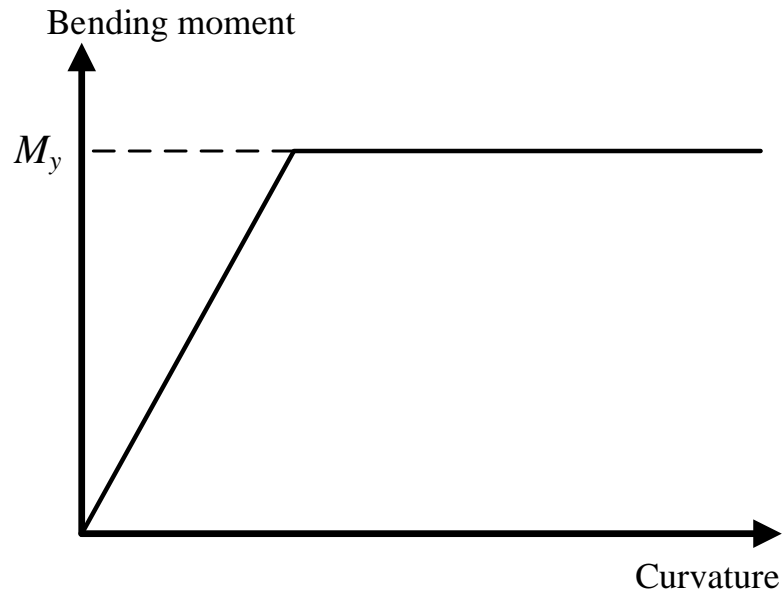

Fig. 1-2
- (5) The nonlinear behavior of the member is assumed as the perfect bilinear model, as shown in Fig. 1-2, and the yield moment is M_y . Calculate the amount of the lateral forces, P_{uA} and P_{uB} , when Frame A and Frame B form the collapse mechanism, respectively.